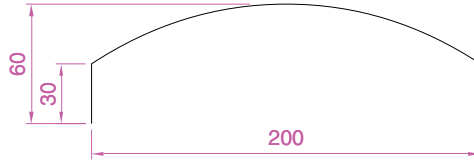

Fig. 18.13 Sixth example – Surfaces model – pline outline
2. Construct the polyline to the sizes and shape as shown in Fig. 18.13.